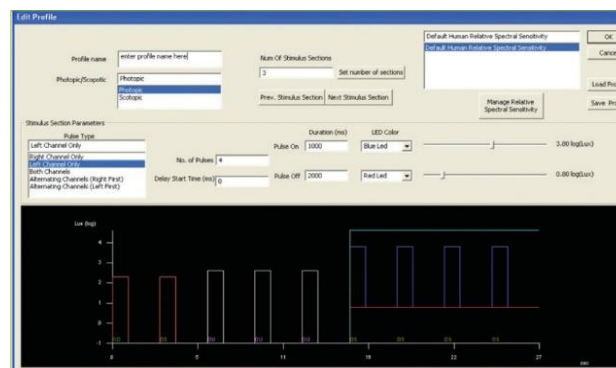

Figure 12 – The Edit Stimulus Profile GUI, Section2.
Section 3 (Figure 12) is defined by four pulses of blue light over a red background – intensity of the blue light is 3.80 logLux and intensity of the red background is 0.80 logLux. Only the left eye (OS) is stimulated.